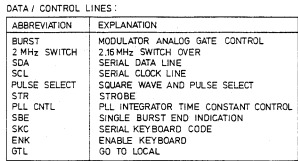

Fig. 33 Overall circuit diagram
- Fig. 33 Overall circuit diagram